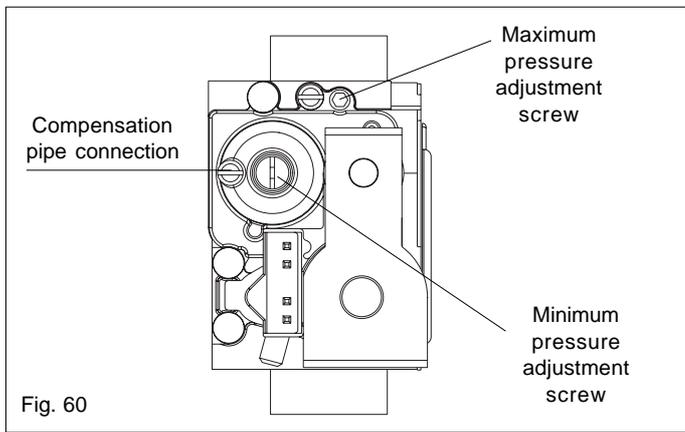

Fig. 60
- Using a suitable screwdriver, very slowly turn the maximum pressure adjustment screw (Fig. 60) – clockwise to decrease, counter clockwise to increase – until the correct value is displayed on the CO2 analyzer (allow time for the analyzer to stabilize).
- Using a suitable screwdriver, very slowly turn the minimum pressure adjustment screw (Fig. 60) – clockwise to increase, counter clockwise to decrease - until the correct value is displayed on the CO2 analyzer (allow time for the analyzer to stabilize).